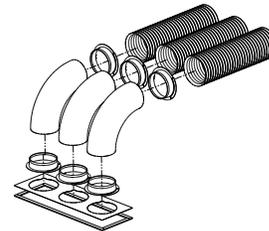

Figure 7
3. Install duct adapters in each opening see Figure 7.